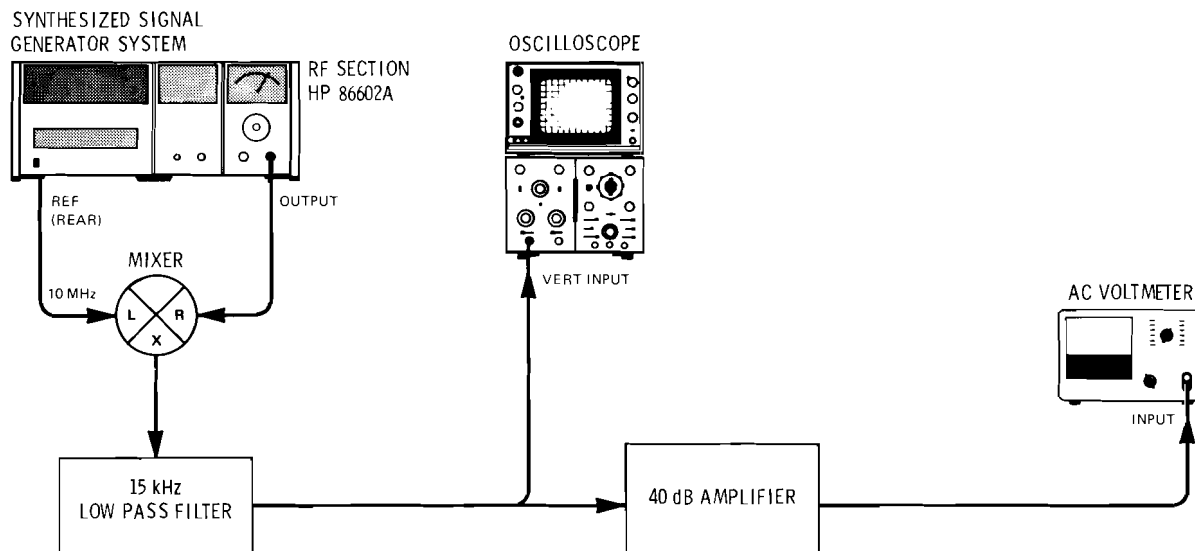

Figure 4-8. Signal-to-Phase Noise Ratio Test Setup
1. Interconnect equipment as illustrated in Figure 4-8.